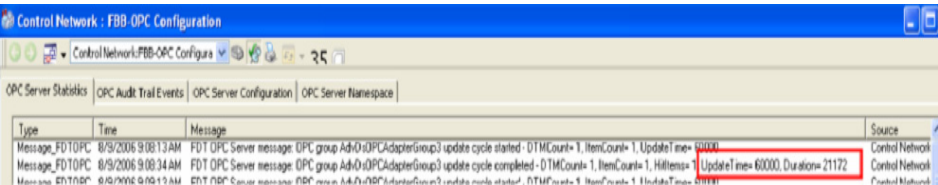

Figure 156. Cycle Time of the OPC Server PROFIBUS/HART
10. Wait according to the configured **Update Time**, till the **Duration Time** is displayed next to the **Update Time** entry as shown in Figure 156. If the **Duration Time** is less than the **Update Time**, the OPC Server is able to call all configured OPC items in one cycle. The OPC Server cycle time configured in **DIP HART Asset Monitor Data Source** aspect or **DIP PROFIBUS Asset Monitor Data Source** aspect (see above) shall be configured according the following rule: